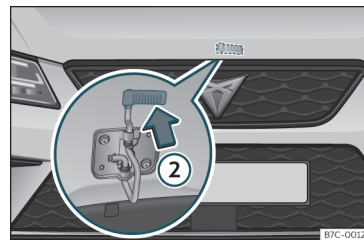

Fig. 10 Cam under the bonnet
- To lift the bonnet: press the release catch under the bonnet upwards >>> **Fig. 10 ②**. The arrester hook under the bonnet is released.